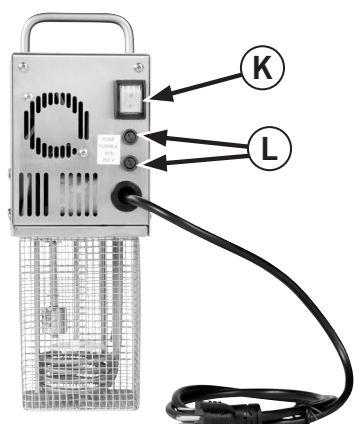

Figure 2. Back of Control Panel
6. Press the Power Switch (K) to turn the unit ON — See Figure 2